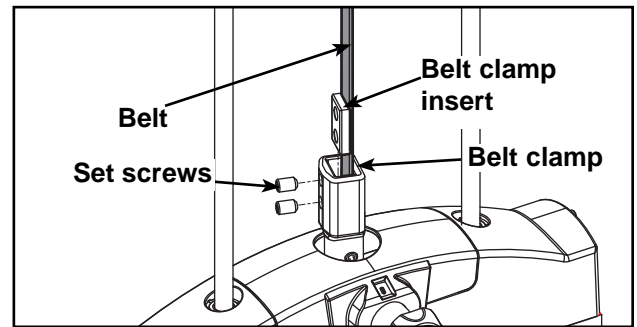

Figure 12
- E. Pull belt tight and secure belt to clamp with the two set screws. **NOTE:** Torque set screws 300-350 in./lbs. See Figure 12.